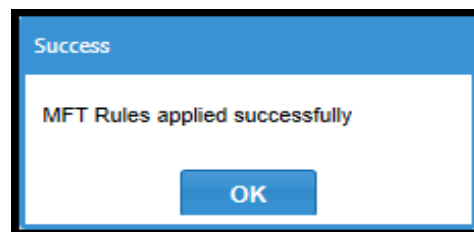

Figure 38 Confirmation box
6. If you are not asked for credentials, then a confirmation box appears, as shown in Figure 38. Click **OK**. Changes are saved on the Manage Device page.